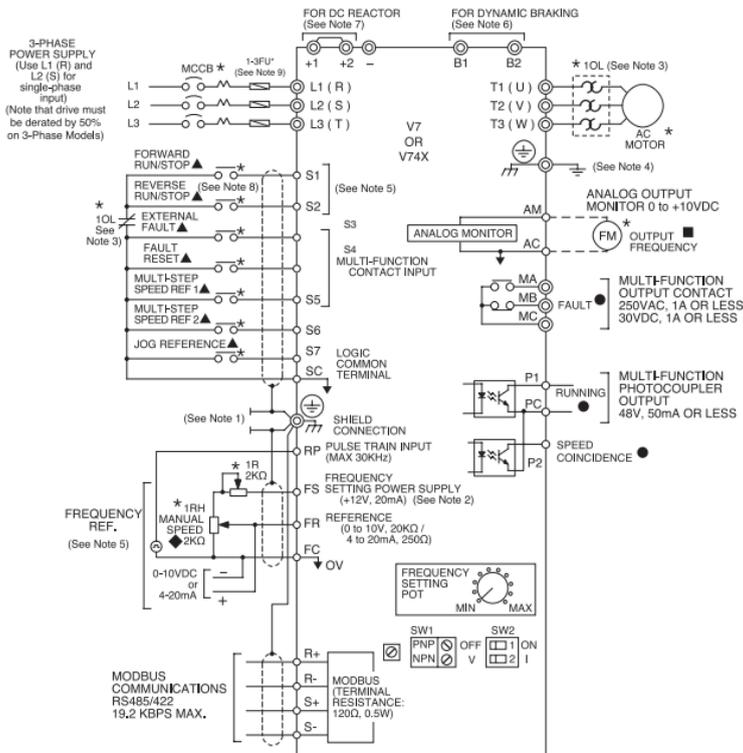
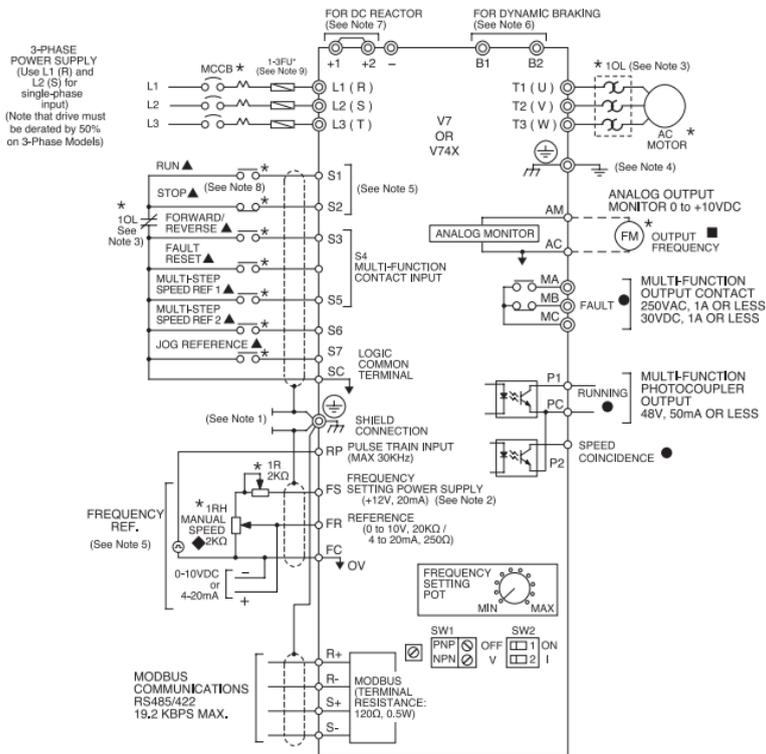

Figure 1-5. Standard Connections (2-Wire Control)
Figure 1-6. Standard Connections (3-Wire Control)
Notes for Figure 1-5 (2-Wire Control) and Figure 1-6 (3-Wire Control)
- The Drive leaves the factory with all parameters set for 2-wire external control/ reference control. To use the Drive in a 3-wire application, Drive parameters n001, n003 and n004 must be reprogrammed and Figure 1-6 used for all external connections.